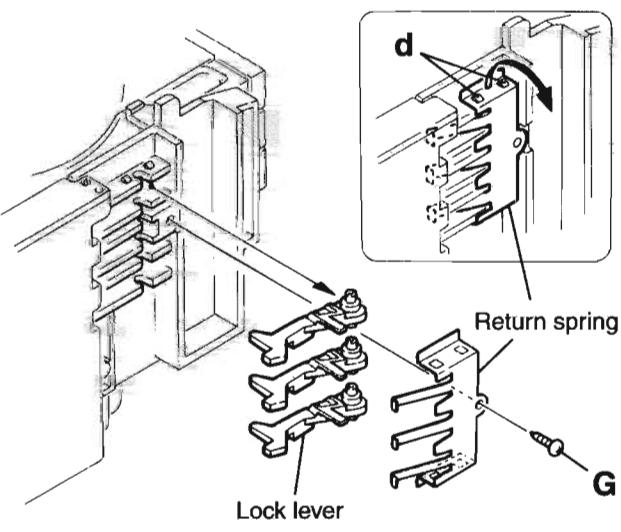

Fig.4
9. From the left side face of the chassis assembly, remove the one screw **G** retaining both of the return spring and lock lever(See Fig.4).
10. By removing the pawl at the section "d" fixing the return spring, dismount the return spring(See Fig.4).
11. Remove the three lock levers(See Fig.4).